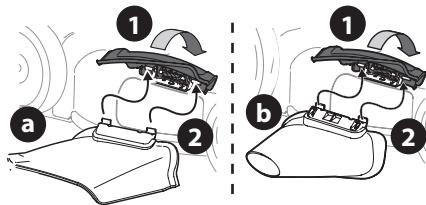

Figure 18
1. Lift the mulch plug (Figure 18).
2. Slide the two hooks of the side discharge chute (a) or side discharge blower (b) under the mulch plug hinge pin. Lower the mulch plug (Figure 18).